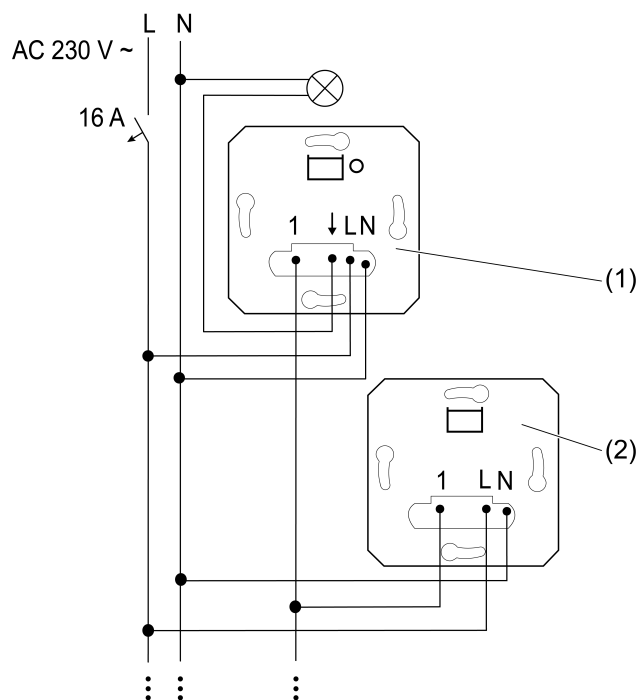
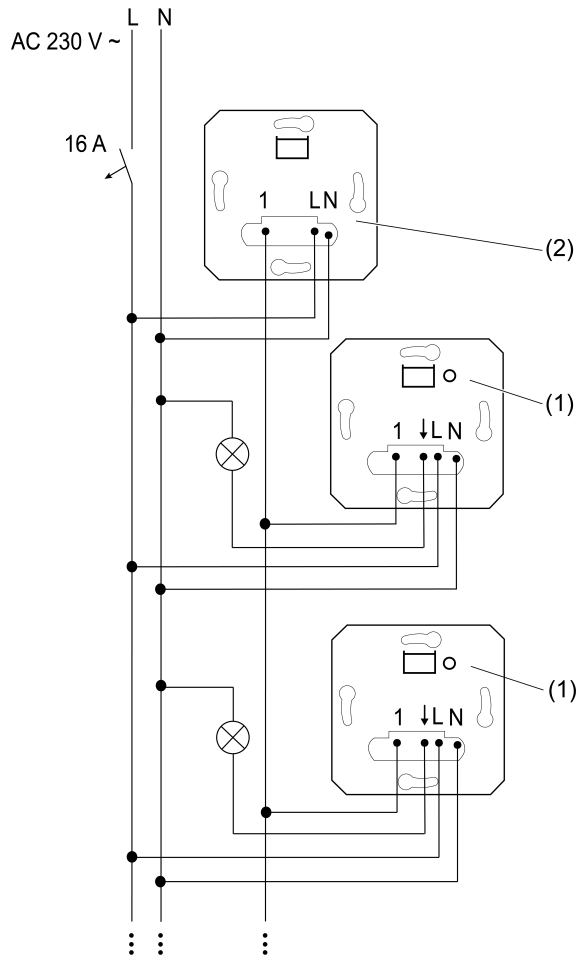
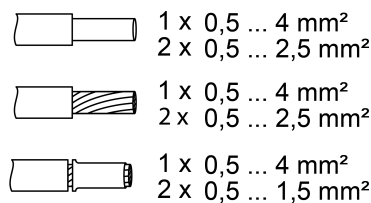

Figure 1: Connection diagram 3-wire extensions on a main device
Figure 2: Connection diagram for multiple main devices to a 3-wire extension for the central control
Figure 3: Clampable cable cross-sections
i Up to ten 3-wire extensions (2) can be connected to a main device (1) (Figure 1).
i Up to five identical or different main devices (1) can be controlled together by a 3-wire extension (2) (Figure 2).
- Connect extension (2) according to connection diagram (Figure 1) and (Figure 2). Note clampable cable cross-sections (Figure 3).